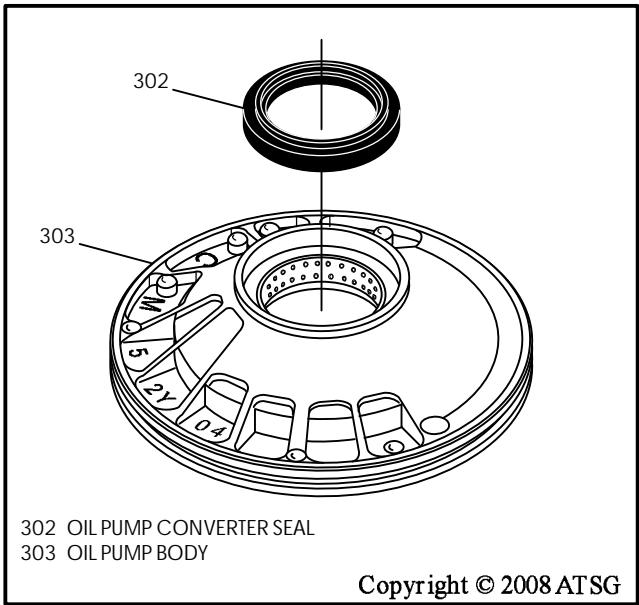

Figure 150
11. Turn the oil pump body over and install a new converter hub seal, as shown in Figure 150, using the proper seal driver.